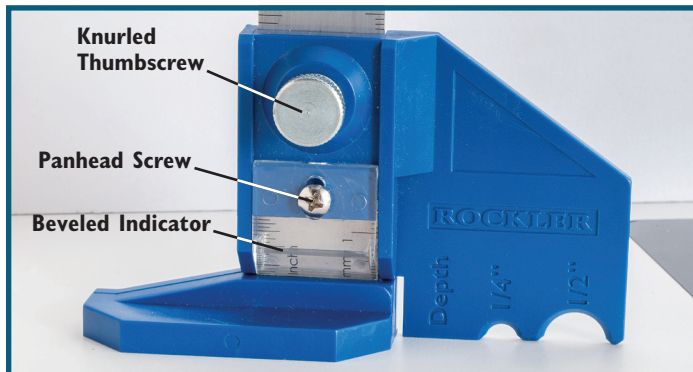

Fig. 1
2. Set the Router Bit Center Depth Gauge upright on a flat surface. **Fig. 1.**
3. Loosen the knurled thumbscrew and lower the body of the gauge until the flat edge (marked "Depth") contacts the surface. **Fig. 1.**
4. Hold the body in place and make sure the front edge of the beveled indicator is down as far as it will go. Tighten the panhead screw to secure it in place. **Fig. 1.**